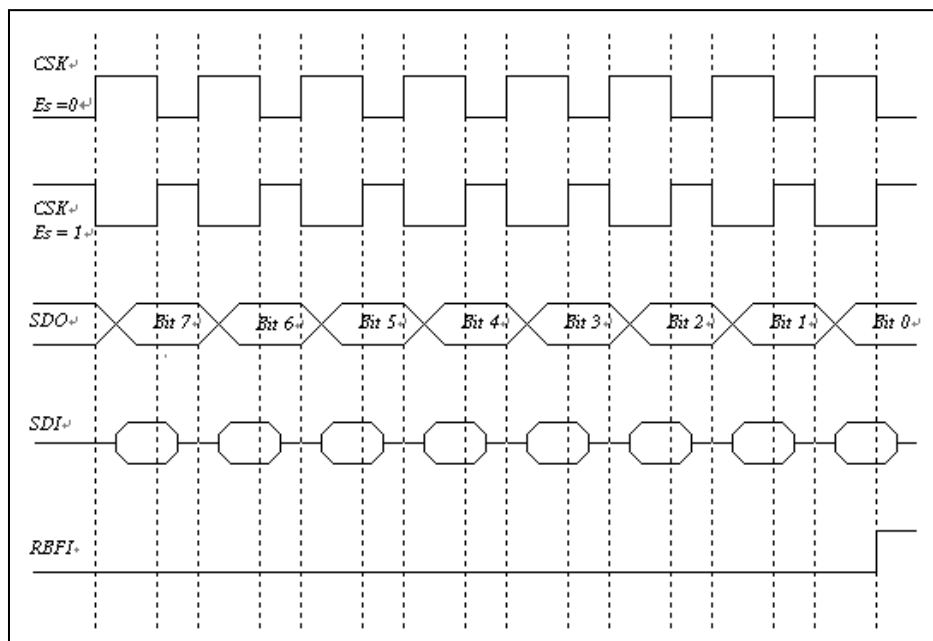
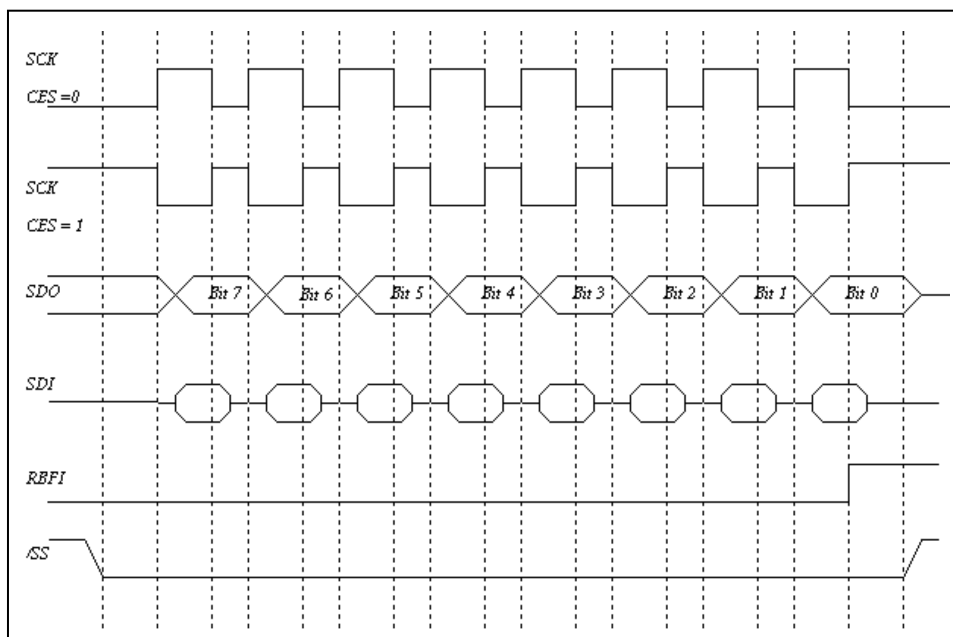

Figure 6-10a SPI Mode with /SS Disabled Timing Diagram
Figure 6-10b SPI Mode with /SS Enabled Timing Diagram
- Timing is shown in Figures 6-10a and 6-10b below.
- Timing is shown in Figures 6-10a and 6-10b.
The SCK edge is selected by programming the bit CES. The waveform shown in Figure 6-10a above is applicable regardless of whether the eKTF5616/08 is in Master or Slave mode with /SS disabled. However, the waveform in Figure 6-10b below can only be implemented in Slave mode with /SS enabled.